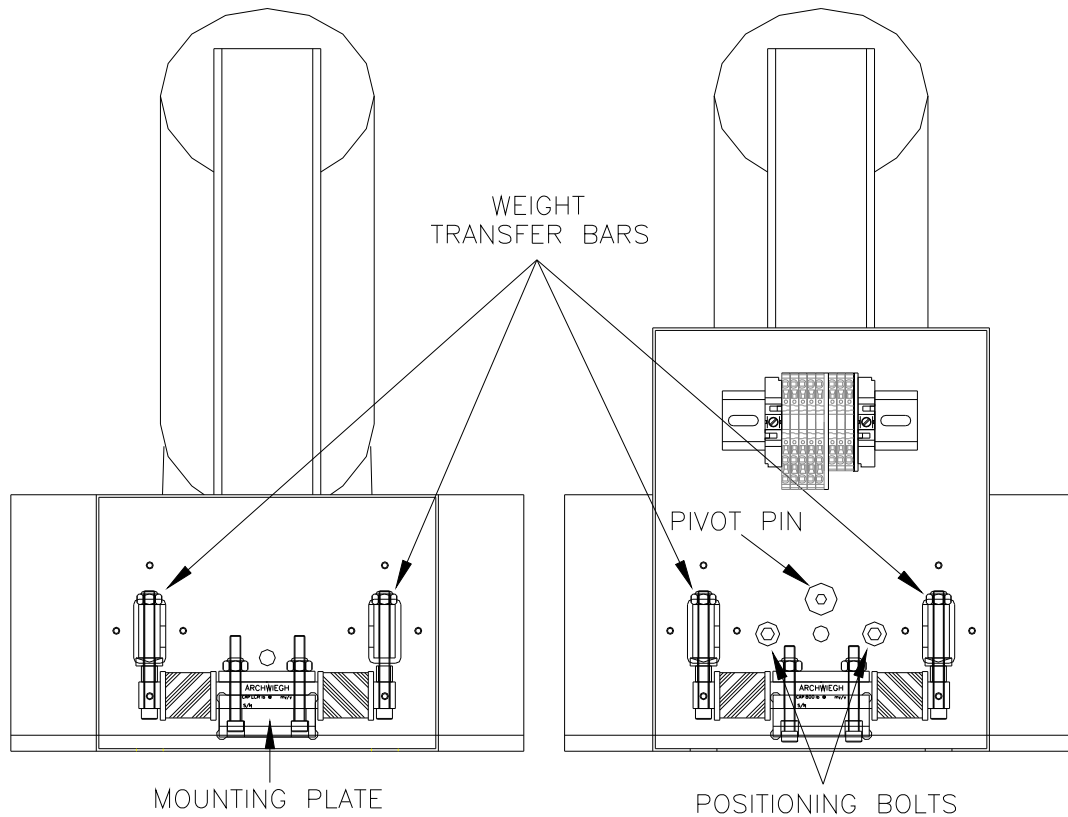

Figure 3
- ❑ **14)** See *Figure 3* - Loosen the Pivot Pin one (1) turn, loosen the Positioning Bolts two (2) turns. Tighten the Positioning Bolts and then tighten the Pivot Bolt. This procedure removes any torsion strain placed on the assembly during installation.
- ❑ **15)** See *Figure 3* - Tighten the load cells to the weight transfer bars and the mounting plate. There are 4 bolts per loadcell that has to be tightened.